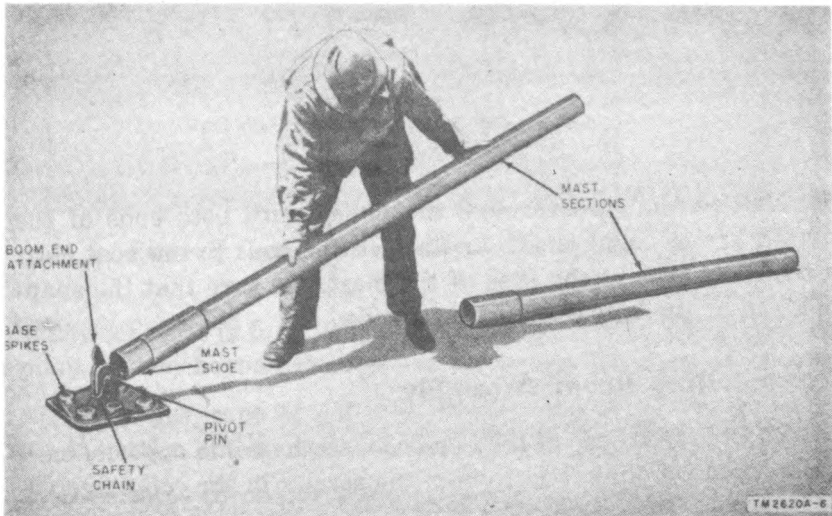

Figure 6. Preliminary installation.
(figs. 6 and 7)
- (1) Remove stones and pebbles from the ground at the point selected for installation of the base plate. Level the dirt so that the plate can be set firmly on the ground. Place the base plate on the cleared space.
- (2) Remove four 8-inch metal stakes from the canvas bag in which they are packed and drive them into the ground through the four holes in the corners of the base plate.
- (3) Hook the mast shoe to the base plate bracket (fig. 6) and insert, through the matching holes, the pivot pin on the end of the safety chain. Lock the pin by moving the locking plate from the horizontal to the vertical position.
- (4) Lay eight mast sections on the ground in a straight line so that the coupling end of each section faces the mast base.
- (5) Fit the coupling end of the first section into the mast shoe. Fit the coupling end of the second section over the